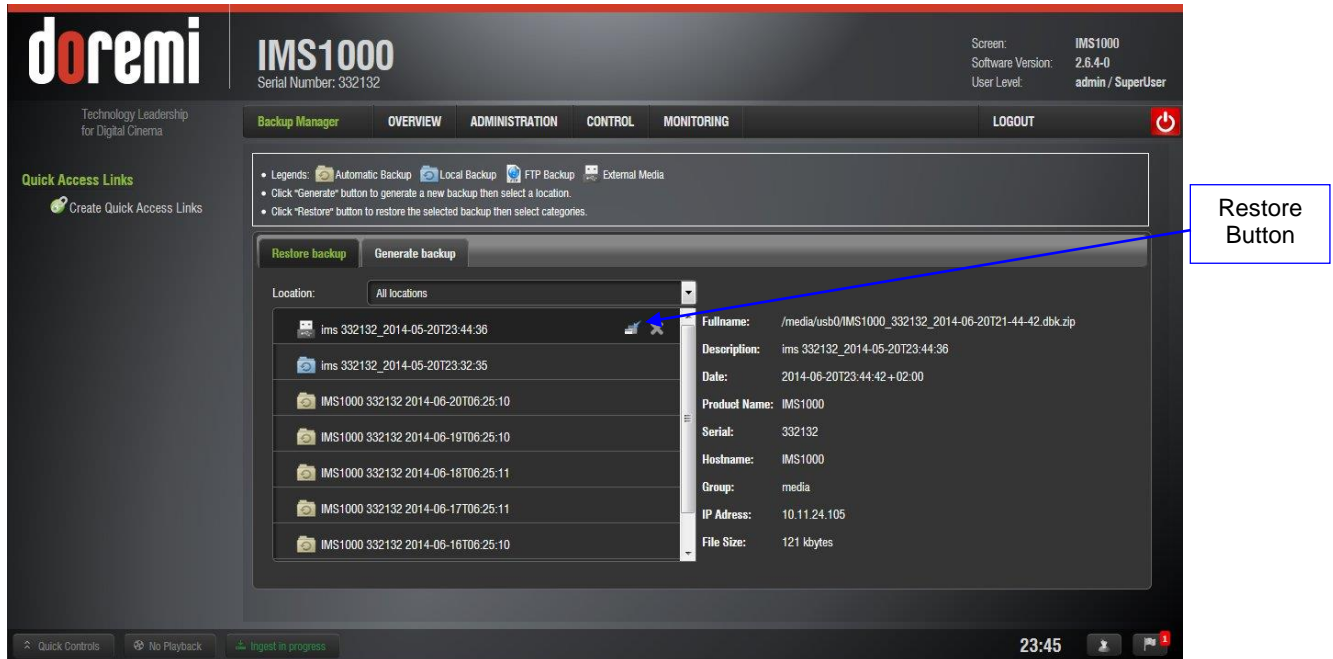

Figure 207: Restore
- Insert the external drive into the unit. The backup will appear in the Restore Backup tab (Figure 207).
- Select the backup file from the left hand side and click on the Restore button (Figure 207).